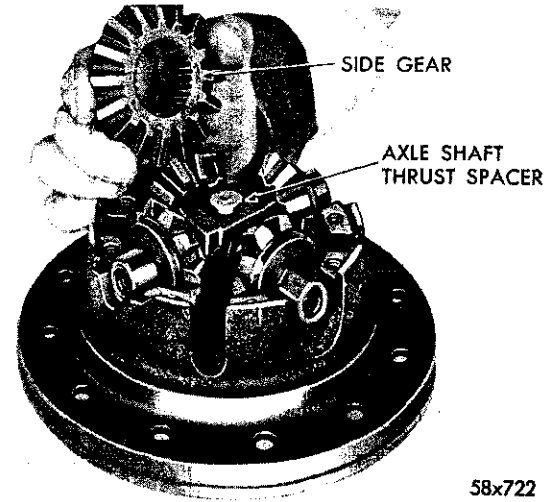
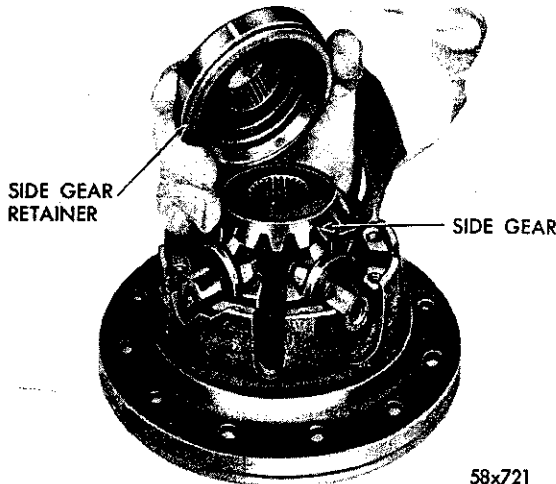

Fig. 36—Removing or Installing Side Gear (Cap Side)
Fig. 35—Removing or Installing Side Gear Retainer (Cap Side)
(3) Remove the side gear retainer (Fig. 35), and the side gear (Fig. 36).